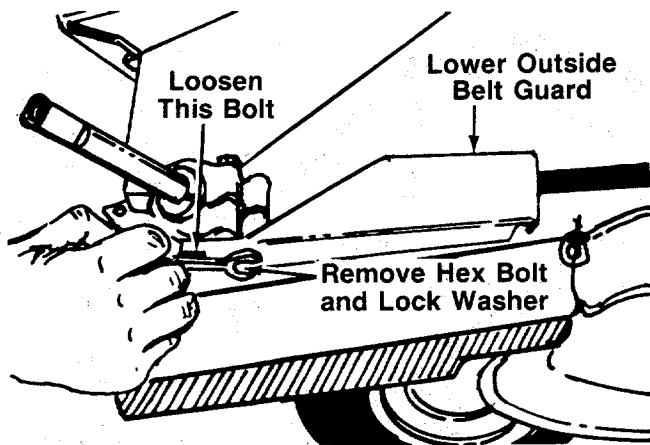

FIGURE 1.
3. Remove one hex bolt and lock washer at the front of lower outside belt guard. A 1/2" wrench is required. See figure 1.
4. Loosen (Do Not remove) the second bolt. See figure 1.